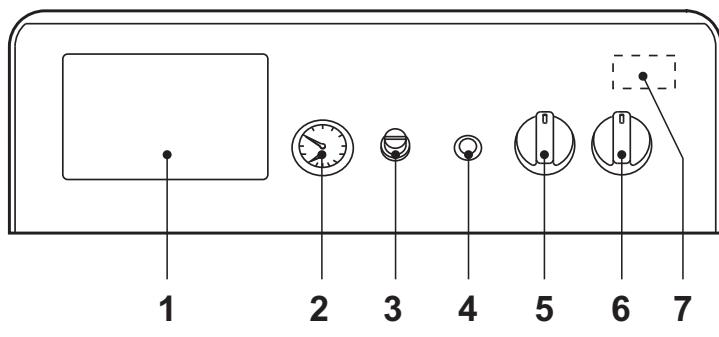
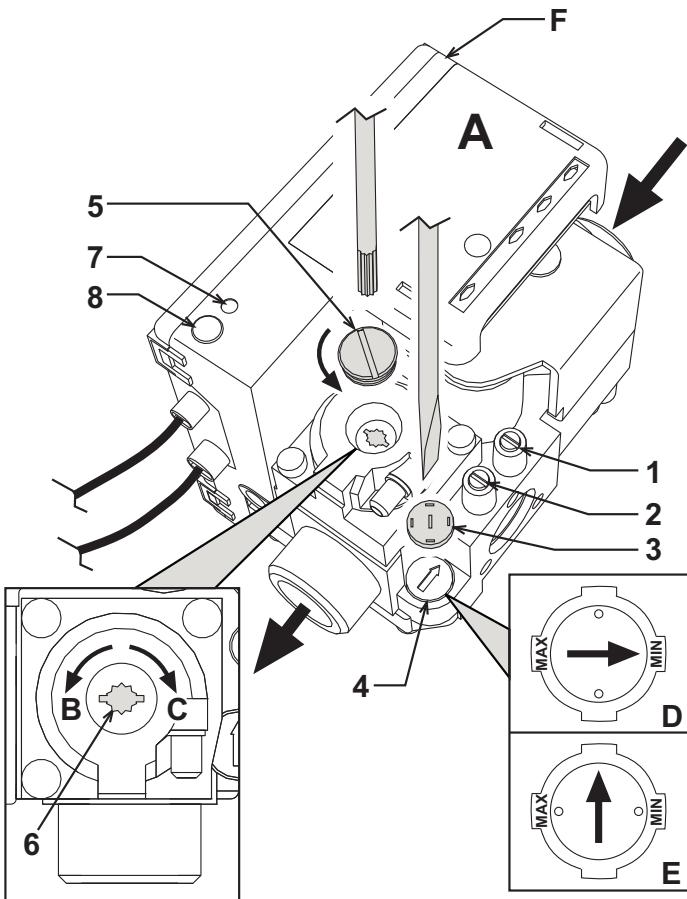

fig. 1 - Control panel
fig. 3 - Pressure adjustment
- Turn the main switch "6" to position 1 (fig. 1).
- If the boiler is equipped with an electronic thermostatic controller fitted in position 1 of fig. 1, the user must also take into account the manufacturer's instructions.
Turn the knob 5 of fig. 1 clockwise to increase the heating water temperature, or anti-clockwise to decrease the temperature. The temperature can be varied from a minimum of 30°C to a maximum of 90°C. However, it is advisable not to operate the boiler below 45°C.
Using the room thermostat, set the required room temperature. Controlled by the room thermostat, the boiler lights and brings the system water to the temperature set by boiler control thermostat 5 of fig. 1. The generator turns off when the required temperature in the rooms is reached.
The filling pressure with system cold, read on the boiler water gauge detail 2 of fig. 1, must be approx. 1.0 bar. If, during operation, the system pressure falls (due to the evaporation of gases dissolved in the water) to values below the minimum described above, the User must bring it to the initial value by operating the filling cock. At the end of the operation always close the filling cock.
Connect a manometer to the pressure point **2** (fig. 3) located downstream of the gas valve, and turn the boiler thermostat knob (ref. 5 - fig. 1) to the maximum value.
After removing the protection cap **5** (fig. 3), adjust the gas pressure at the burner by turning the screw **6** to the required value (see technical data table and output variability diagrams given in cap. 5).
2. Remove the small protection cap **3** (fig. 3) from the gas valve. Using a small screwdriver, adjust the ignition "STEP" for the required gas (**G20-G25** position **D**fig. 3 or **G30-G31** position **E** fig. 3); then refit the cap.